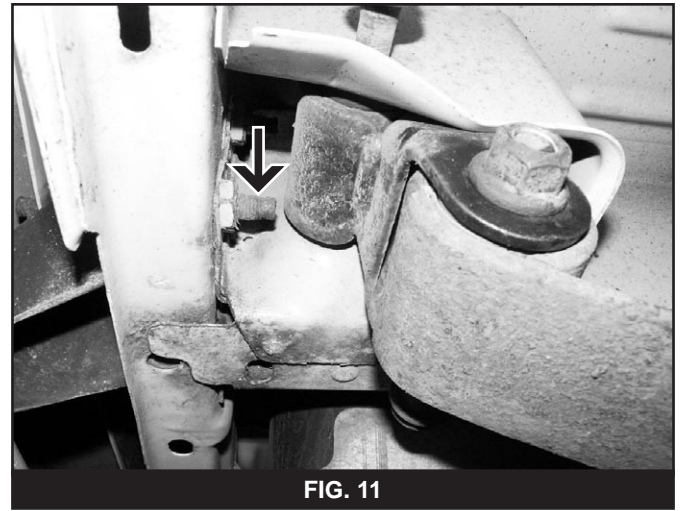

FIG. 11
71. Locate the bumper bolt that is protruding into the shackle pocket. This bolt will contact the new larger shackle through suspension travel. The bolt can either be cut off flush with the welded nut on the body or removed. (Fig 11)